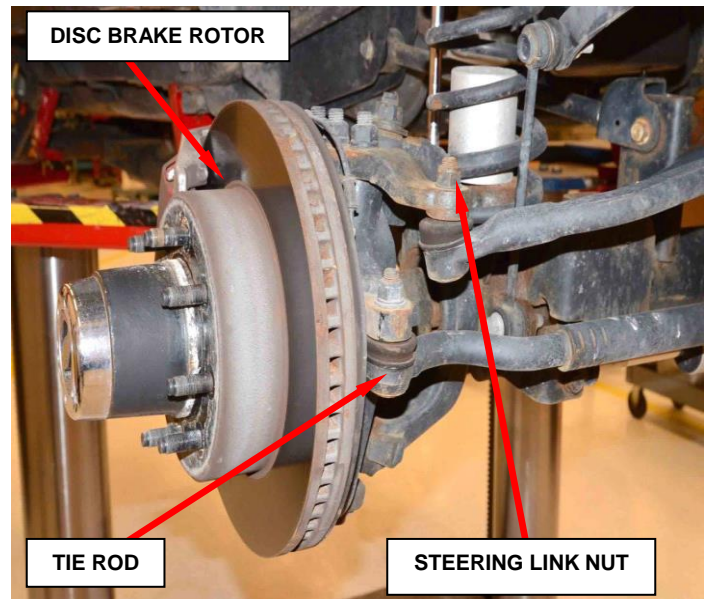

Figure 8 – Right Side
12. Remove the steering link nut and discard **right side only** (Figure 8).
13. Disconnect the steering link end from the steering knuckle using Miller Tool 9360 or equivalent (Figure 8).